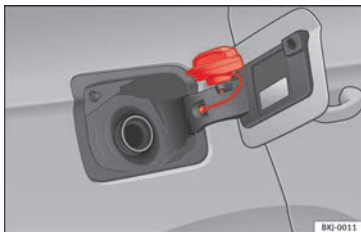

Fig. 52 Fuel tank flap with tank cap attached.
- Place it in the space on the hinge of the open flap »» Fig. 52.